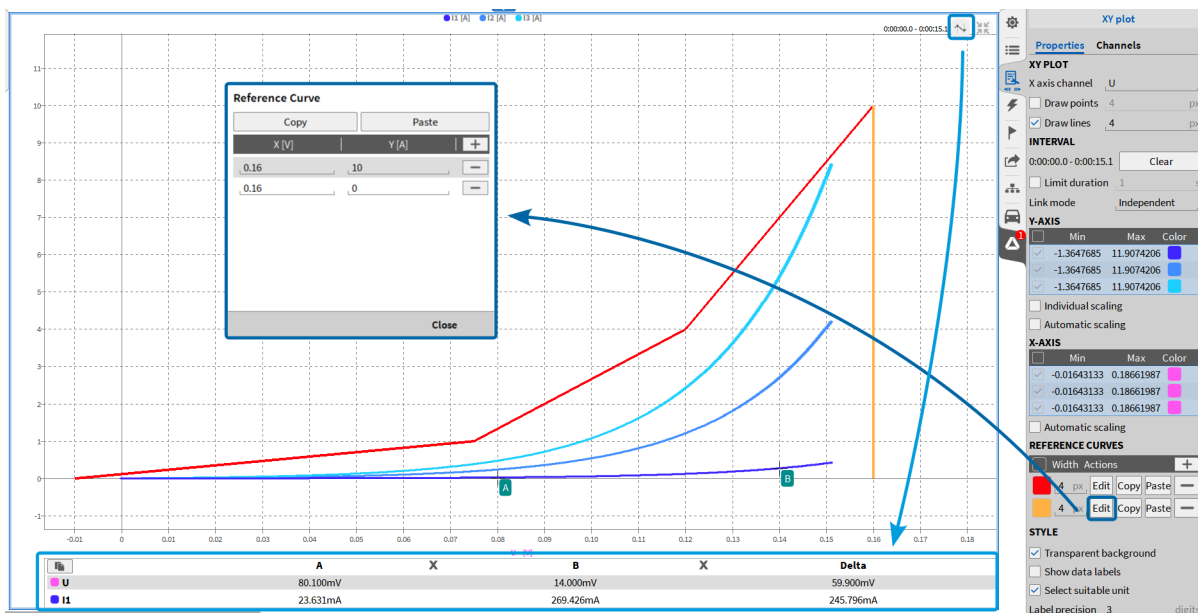

Fig. 8.92: XY plot – highlighted reference curve settings and A/B cursors
- Click Edit to define the reference curve by entering X and Y coordinates. OXYGEN will draw linear segments between the defined points (see Fig. 8.92).